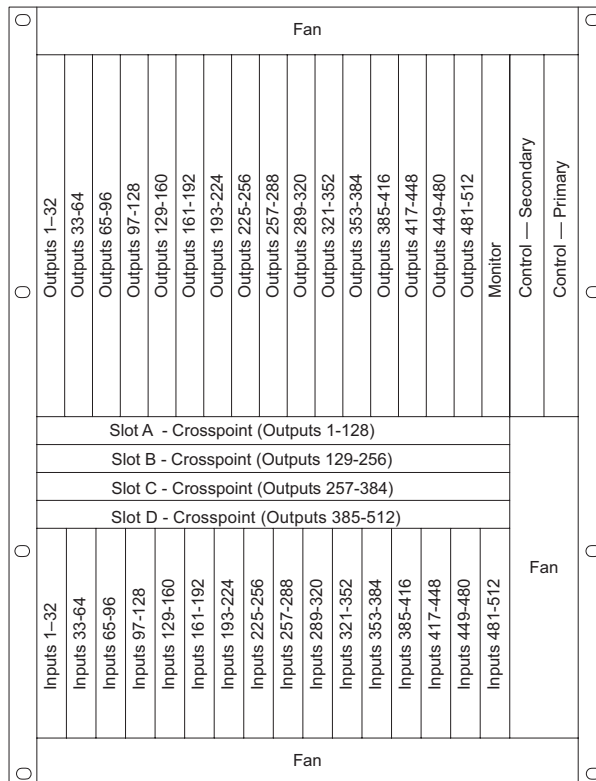

Figure 2-26. Location of Primary Control Card (Front View)
- 1 Locate the primary control card slot, as shown in Figure 2-26. When facing the front of the router, the control cards are located in the upper, right-hand section.